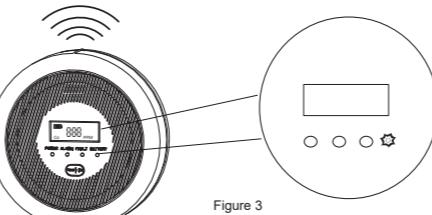

Figure 3
6) Low Voltage: Battery indicator blinks once per 60s, and buzzer sounds 'Di-' per 60s, indicating that you need to replace the batteries (refer to Figure 3).